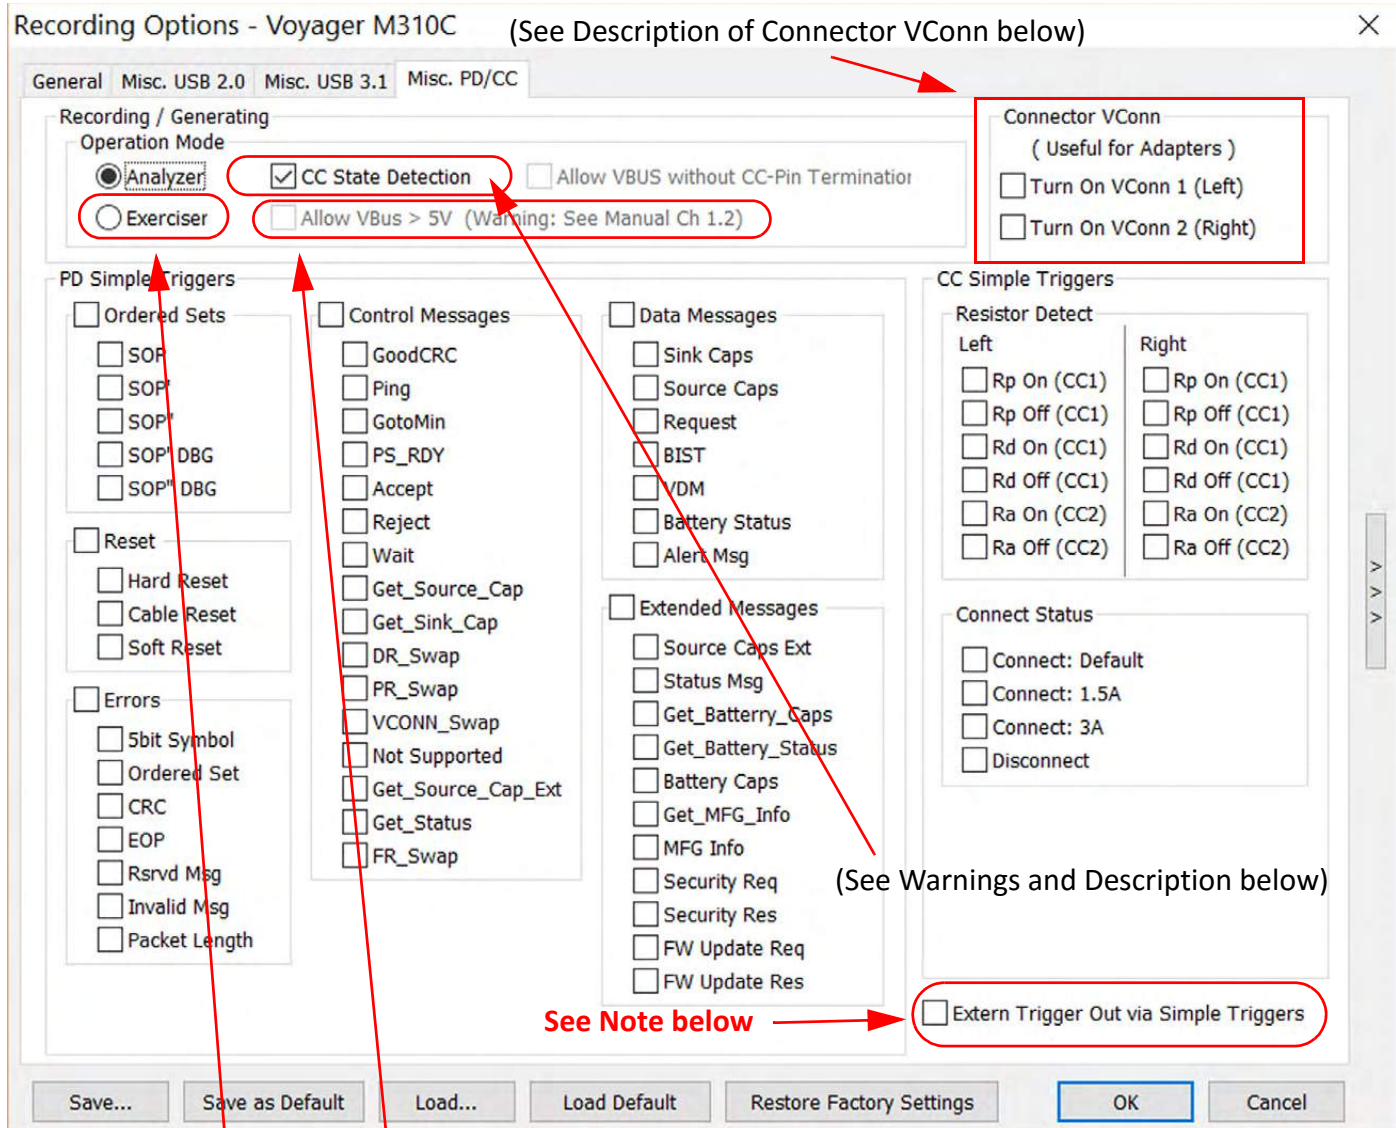

Figure 5.14: Voyager M310C: Recording Options for PD and CC Events
The Simple Trigger Options for Power Delivery (PD) and Configuration Channel (CC) events are shown in Figure 5.14 on page 210.